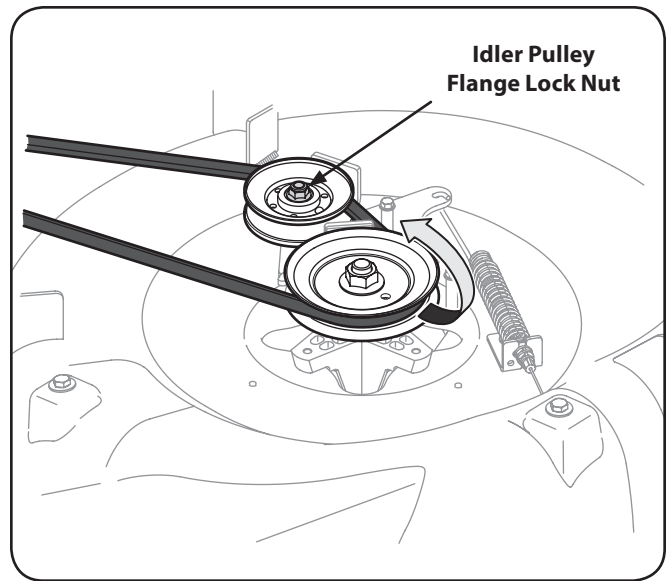

Figure 7-6
5. Loosen the idler pulley by loosening the flange lock nut that secures it, enough to allow clearance for the belt to move past it and off. Remove the belt by working it off of the deck drive pulley and idler pulley. See Figure 7-6.